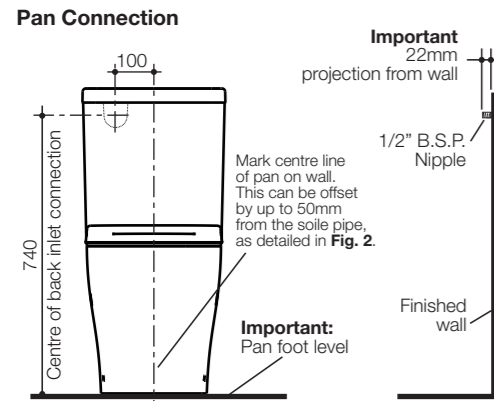
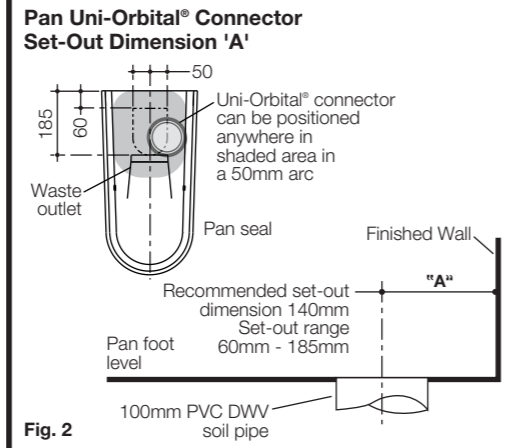
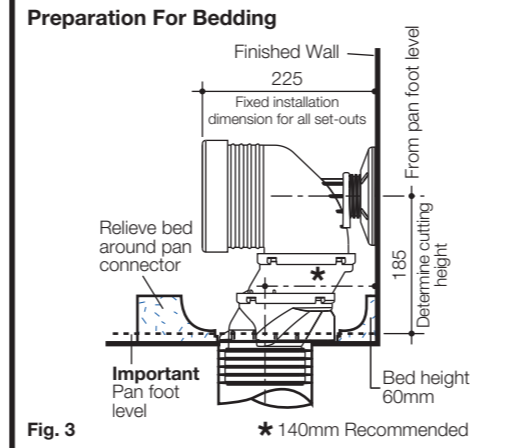
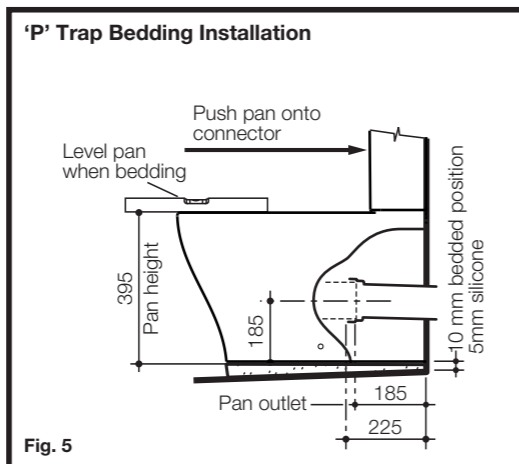

Fig. 1
Fig. 2
Fig. 3
Fig. 5
The Luna pan is universal for both 'S' and 'P'-Trap installations as detailed. The recommended set-out for 'S'-Trap installations is 140mm from the finished wall with set-out flexibility for existing soil pipe positions ranging from 60mm to 185mm and 50mm sideways adjustment with the Uni-Orbital® connector supplied, as detailed in Fig. 2.
- 1- Mark centre line of the pan on finished wall, as detailed in Fig. 1. This is to be used as a guide when connecting the pan. The centre line can be offset by up to 50mm from the soil pipe, as detailed in Fig. 2.
- 2- Determine set-out "A" of existing pan connector, as detailed in Fig. 2. Set-out range 60mm - 185mm. Recommended set-out 140mm, as detailed in Fig. 3. For 'P' trap installation see Fig. 5.
- 4- Prepare bedding sand cement mixture 3:1 to depth of 60mm as detailed in Fig. 3. **Note:** Do not fill the foot of the pan with bedding mix or include lime or fast drying cement into the mix, these may cause cracking in the foot of the pan.